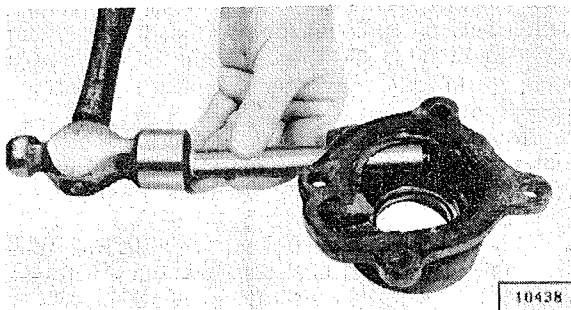

FIG. 120—SPEEDOMETER PINION BUSHING DRIVER
If necessary, replace the speedometer driven pinion bushing (73) with Bushing Installer Tool W-133 (Fig. 120). When the rear bearing cap assembly is installed, check the end movement of the mainshaft to determine the adjustment of the tapered roller bearings. The shaft should have 0.004" to 0.008" [0,104 a 0,203 mm.] end play. Adjustment is made by selective shim installation between the cap and the case. These shims are available for the adjustment.